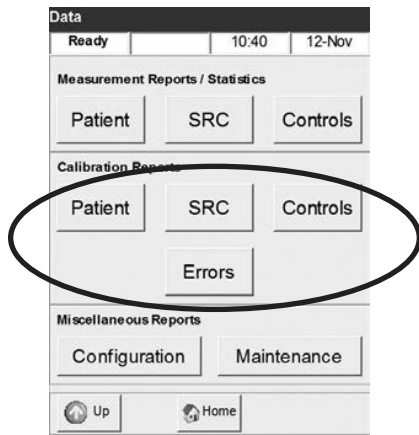

Fig. 7-43 Data Manager
From the **<Ready>** display, press **<Data Manager>** to access the **<Data>** screen (Fig. 7-43).
- To print a patient calibration report, select **<Calibration Reports -> Patient>** in the **<Data>** screen (Fig. 7-43).